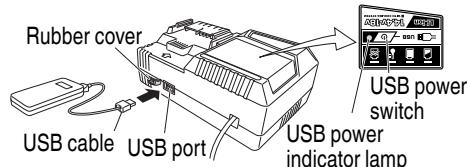

Fig.10
- (2) Turn the USB power switch ON (Fig. 10)
(3) Connect the USB cable. (Fig. 10)
- Turn the USB power switch OFF and unplug the power cord from the electrical outlet. (Fig. 10)